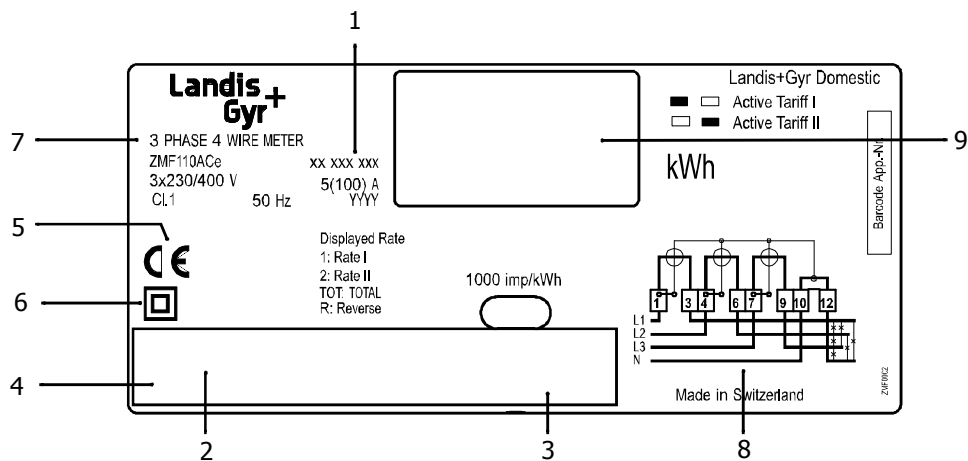

Fig. 3.2 Basic layout of face plate
- 2 Face plate (for details see Fig. 3.2)